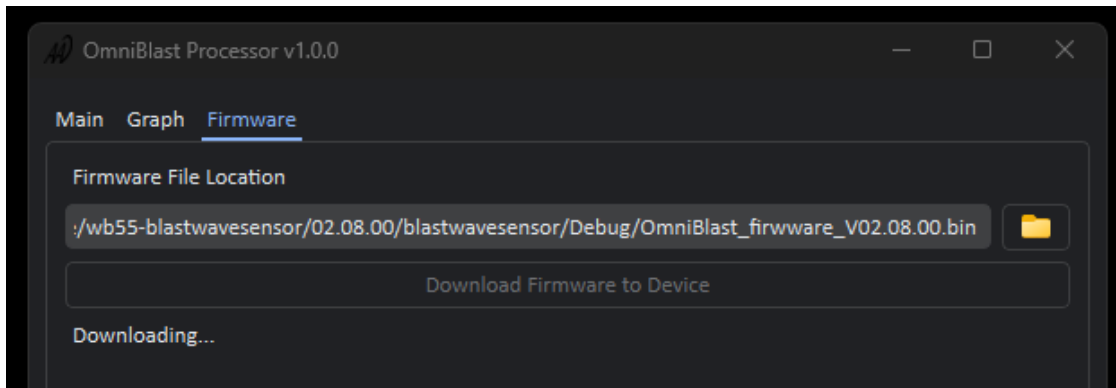

Figure 31. Message of Downloading while the firmware is successfully being downloaded.
- c) Select the folder icon in the Firmware Tab (**Figure 31**) and navigate to the location of the .bin file.
- h) If a sensor in boot mode is detected by being connected over USB, the firmware will begin to download with the message “Downloading” (**Figure 31**).